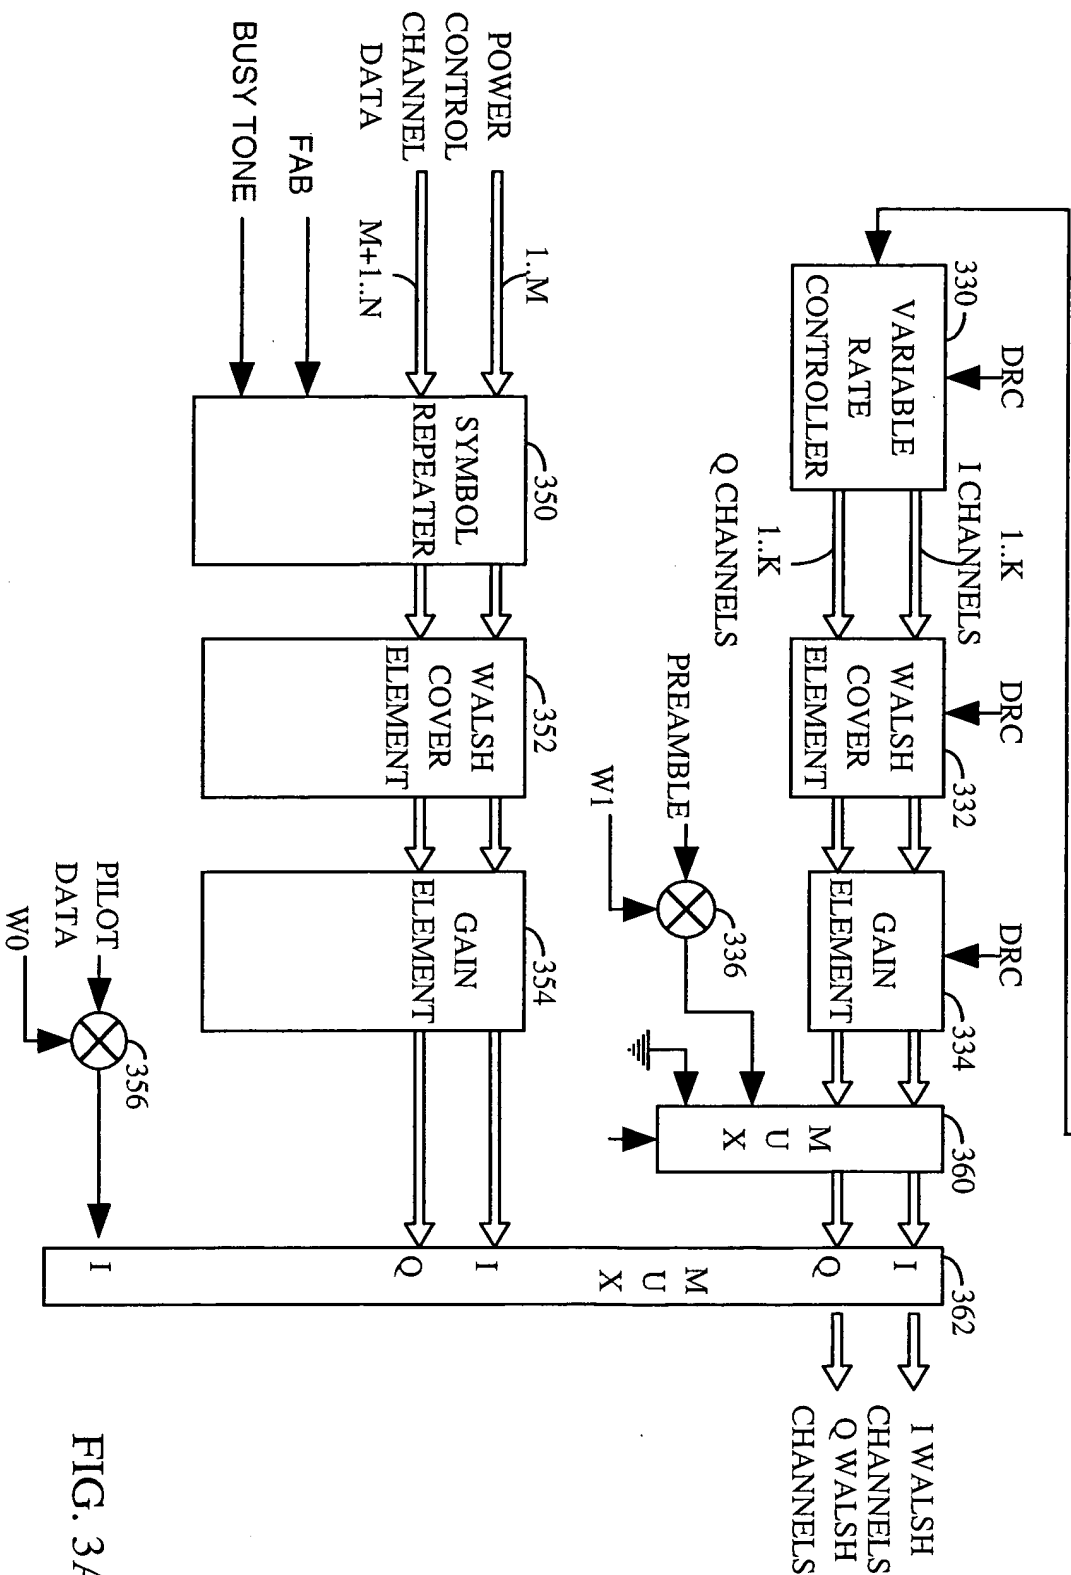

FIG. 3A
FIG. 3A is a block diagram of a transmitter. The transmitter includes a data input, a CRC encoder (312), an encoder (314), an interleaver (316), a frame puncture element (318), a multiplier (320), a scrambler (322), and a feedback loop (LC STATE) from the multiplier (320) to the scrambler (322). The encoder (314) also receives a DRC signal. The interleaver (316) outputs to the frame puncture element (318), which then outputs to the multiplier (320). The multiplier (320) also receives a signal from the LC STATE. The output of the multiplier (320) is the scrambled data, which is then processed by the scrambler (322). The scrambler (322) outputs to the feedback loop (LC STATE), which feeds back into the scrambler (322).